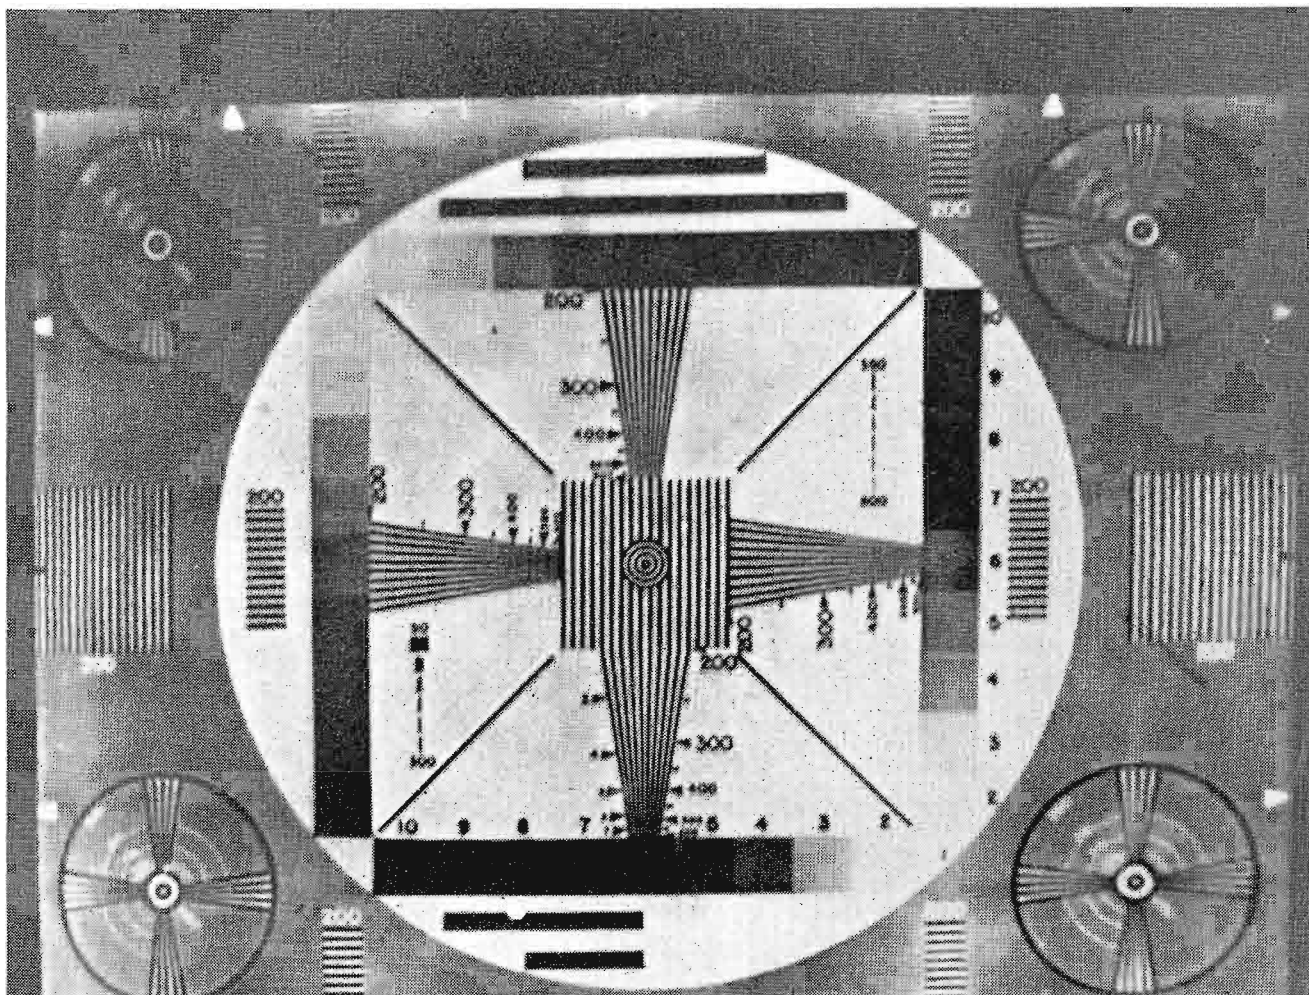

FIG. 8. Photograph taken from a monitor, showing registration of a typical well-adjusted TK-26 film system.
4. Image geometrical distortion can result either from excess vidicon beam current or the use of excess vidicon alignment coil current. Photograph taken from a monitor, showing registration of a typical well-adjusted TK-26 film system, is shown in Fig. 8.